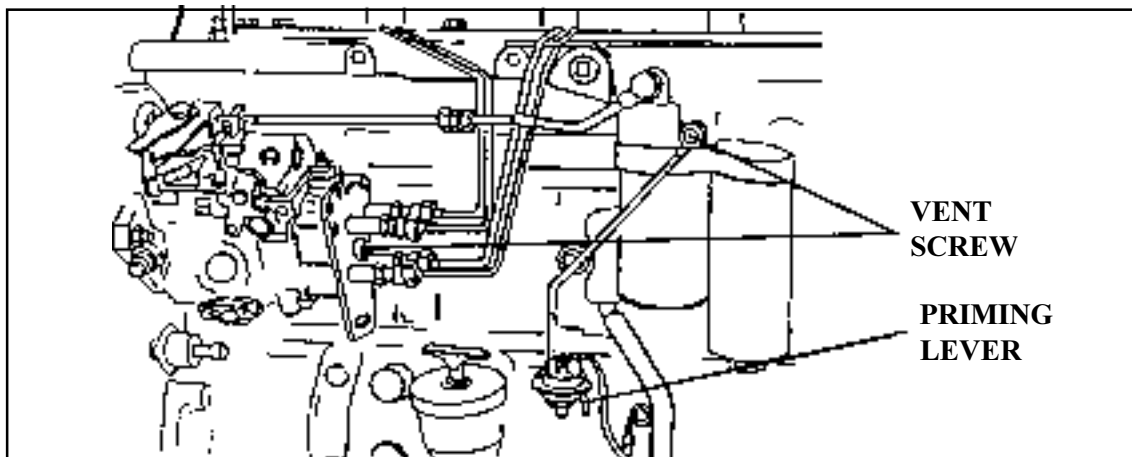

Figure 20. Bleeding the Fuel System
- a. Open the vent screw, located on the side of the filter. (See Figure 20.)